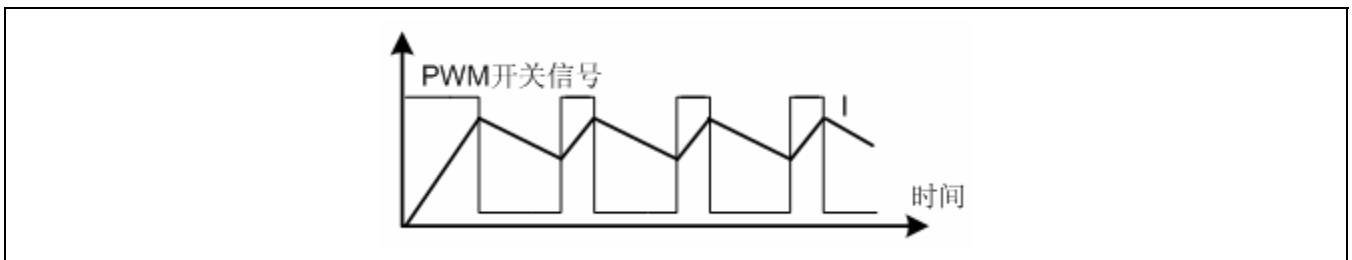

Figure 1-3 Current on load
Buck circuit works when a switch signal turns on the transistor (Q). The DC power then starts to charge the coil (L). When the current reaches a predefined level, change the transistor state from On to Off using the switch signal. At this time, since the coil will have inertia to keep the current direction, the load still can be powered with a freewheeling diode until the switch signal turns on the transistor again. The resulting current is continuous but alternating (see Figure 1-3 for more details).